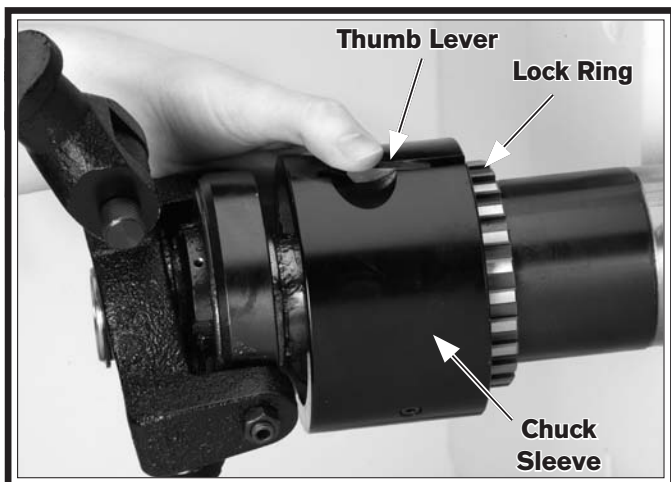

Figure 7. Chuck sleeve installation.
15. When the chuck sleeve contacts the lock ring, press down on the thumb lever, as shown in **Figure 7**, and engage the lock ring with the chuck sleeve.
21. While holding the collet against the collet adapter with your right hand, use your left hand to push down on the chuck-sleeve thumb lever (**Figure 7**) and rotate the chuck sleeve until the draw tube threads onto the collet.